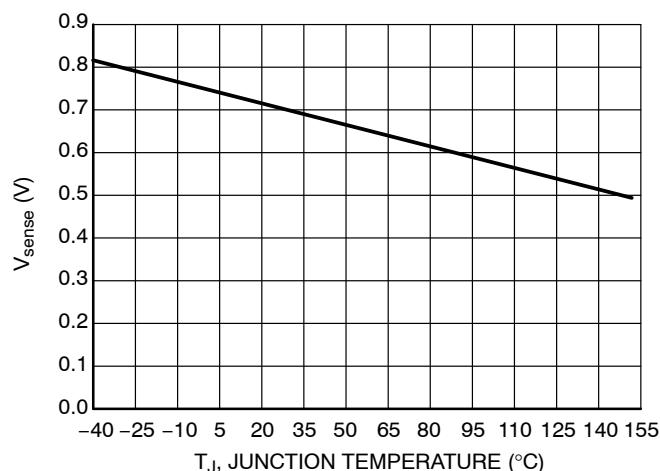

Figure 2. V_{sense} vs. Junction Temperature
- a. $R_{ext} = V_{sense} \text{ (see Figure 2) / } I_{LED}$